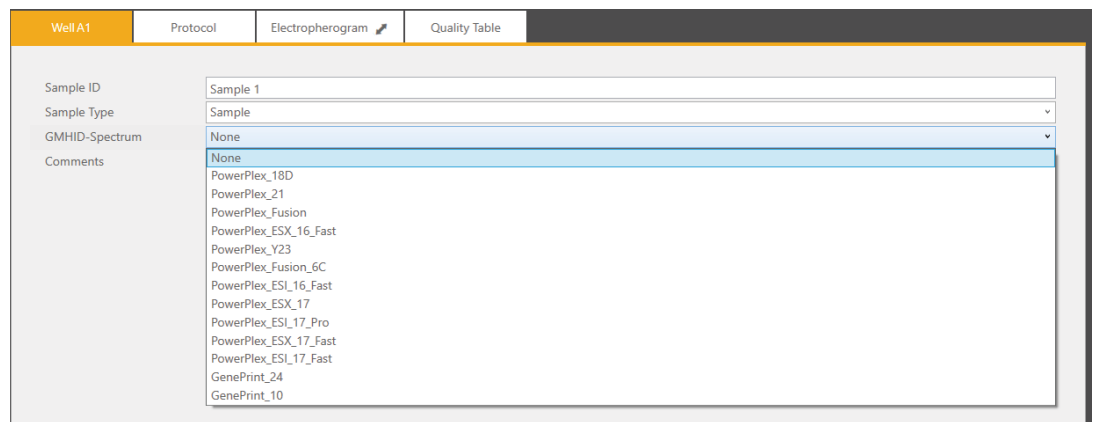

Figure 8. Drop-down options for GMHID-Spectrum run wizard templates.
6. **Optional:** Select **PowerPlex_ESX_17_Fast** in the GMHID-Spectrum drop-down menu (Figure 8).